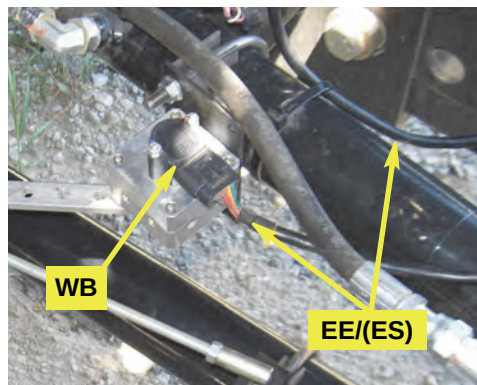

Figure 2c: WAS cable connected as WAS assembly
- f. Connect WAS extension cable **ES** to WAS cable **EE** and route the cable(s) to the WAS assembly on the left rear steering cylinder. Connect **EE** to WAS wire connector **WB** (Figure 2c).